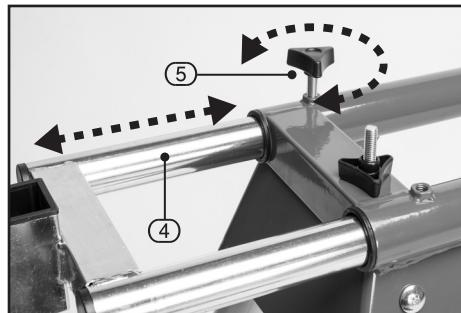

FIG.17
9.1 ROLLER BARS/EXTENSION BAR ADJUSTMENT – FIGS.17 – 18